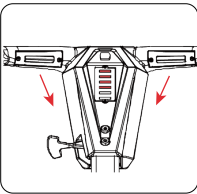

Figure 01
1. Release all start switches at the handle (Fig.01-Fig.02) .